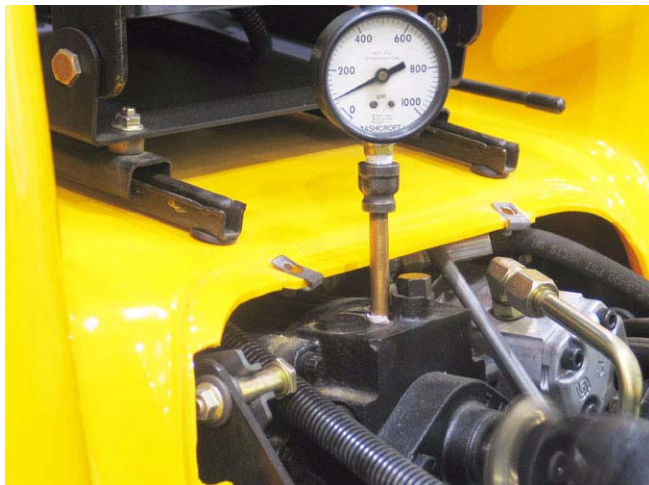

Figure 5.4
- 5.4. The charge pump should generate between 70 and 150 PSI (4.8 to 10.3 Bars) @ 1,200 RPM. See Figure 5.4.